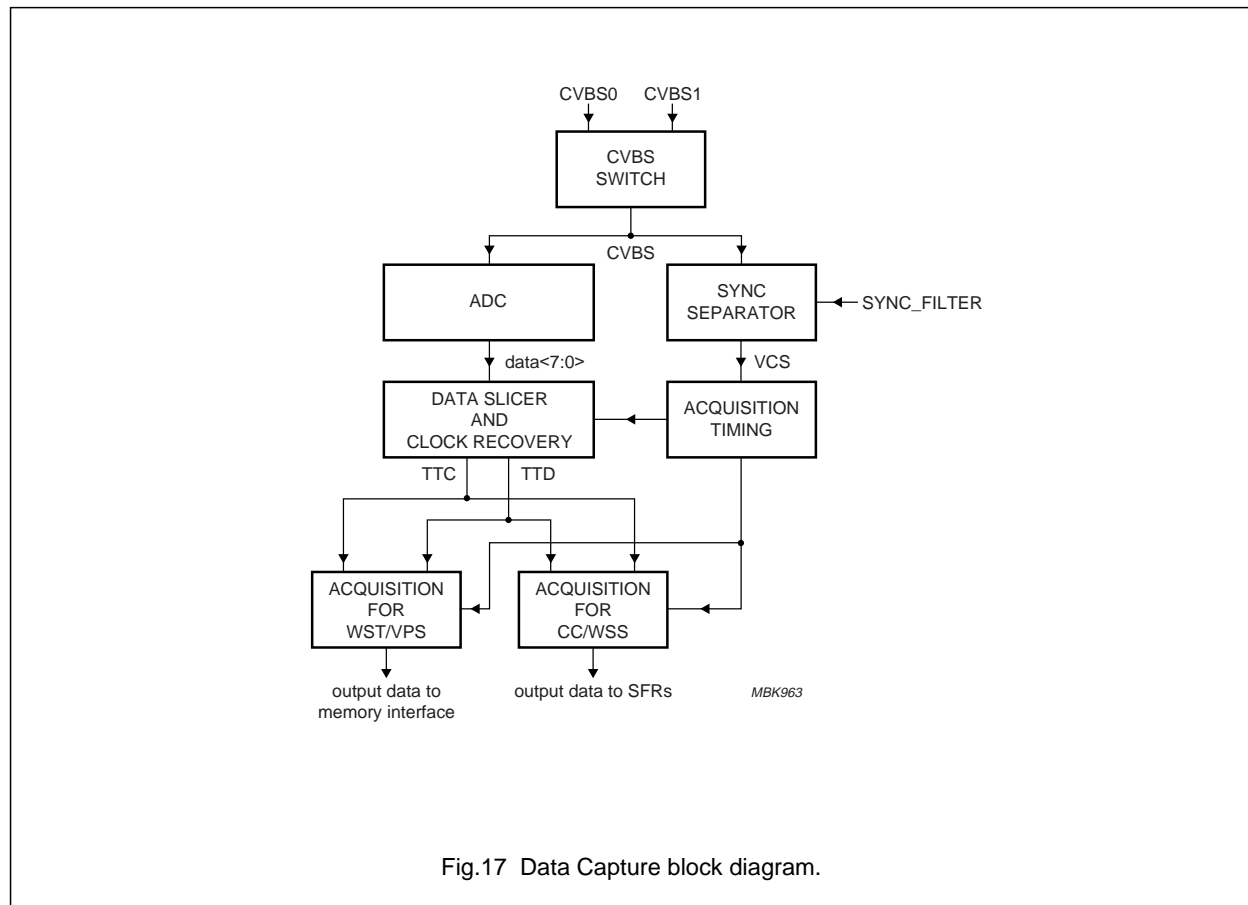

Fig.17 Data Capture block diagram.
The Data Capture section (see Fig.17) takes in the analog Composite Video and Blanking Signal (CVBS), and extracts the required data from it in the digital domain. The data is then decoded and stored in memory. The first stage converts the analog CVBS signal to digital form, using ADC sampling at 12 MHz. Data and clock recovery is then performed by a Multi-rate Video Input Processor (MuVIP). Next, the following types of data are extracted: WST Teletext (625/525), VPS, Closed Caption (CC) and WSS. The extracted data is stored in either memory (DRAM) via the Memory Interface or in SFR locations.
The output of the CVBS switch is passed to a Differential-to-Single-Ended Converter (DIVIS, not shown in Fig.17), although here it is used in single-ended configuration with a reference. A full-flash ADC with a sampling rate of 12 MHz converts the analog output of the DIVIS to a digital representation.